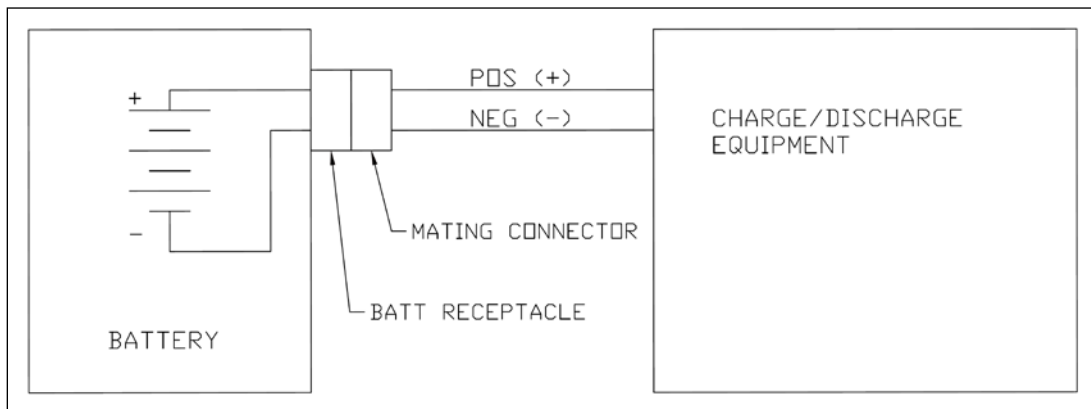

Figure 101. Test Set Up for RG-450 Aircraft Battery
- A. Refer to Figure 101 for a schematic of the test set up.